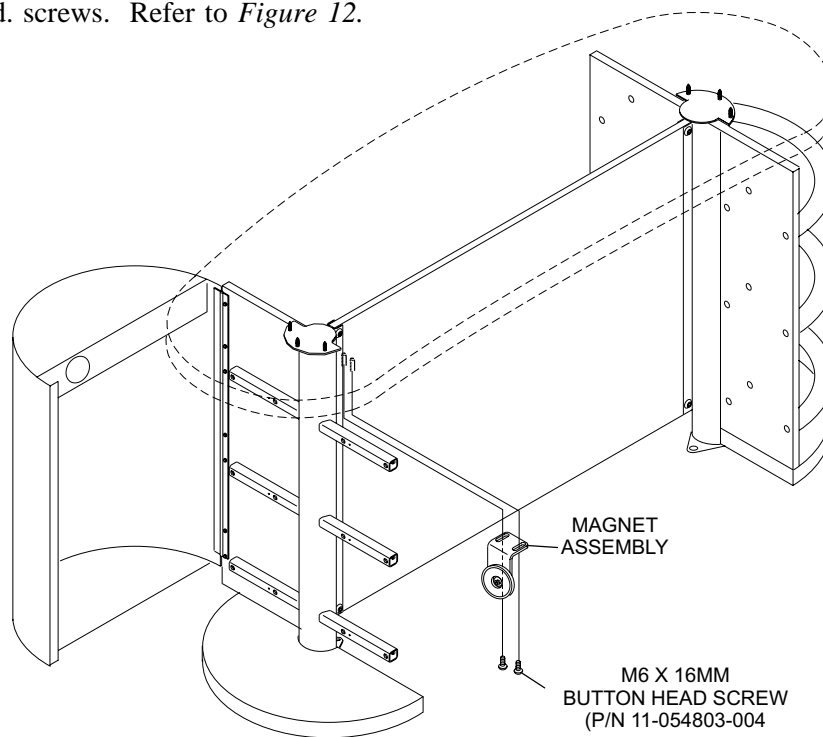

Figure 12
8. Loosely attach magnet mounting bracket to table top using inserts and M6 x 16mm (P/N 11-054803-004) button head screws. Refer to *Figure 12*.